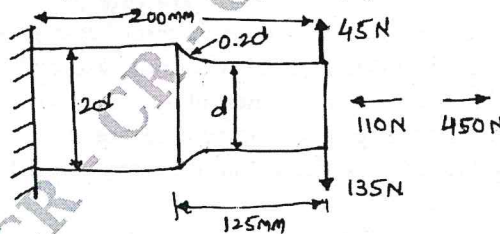

Fig.Q4
- A steel cantilever member shown in Fig.Q4 is subjected to a transverse load at its end that varies from  $45 \text{ N}$  (up) to  $135 \text{ N}$  (down) and axial load varies from  $110 \text{ N}$  (compression) to  $450 \text{ N}$  (tension). Determine the required diameter at the change of section for infinite life using a factor of safety 2. The strength properties of the material are  $\sigma_u = 550 \text{ MPa}$ ,  $\sigma_y = 470 \text{ MPa}$ ,  $\sigma_{-1} = 275 \text{ MPa}$ , notch sensitivity index,  $q = 1$ .